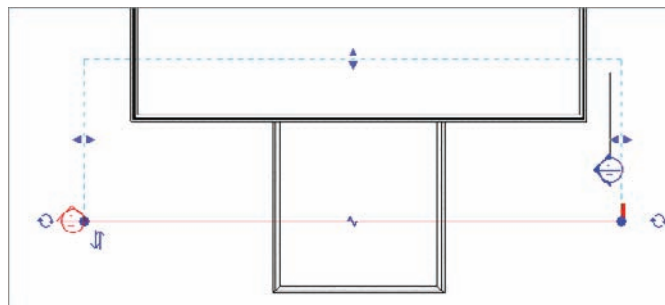

FIGURE 3.52 Adding another section to modify another wall
7. Place a section as shown in Figure 3.52. Make sure the extents are similar to the figure.